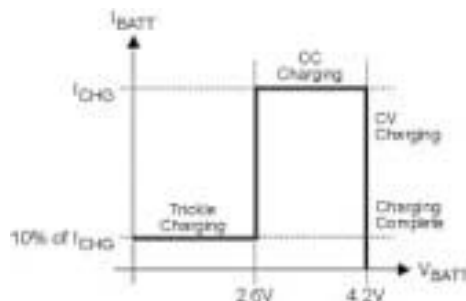

Figure 2—MP26121 Typical Charging Profile
Figure 2 shows the typical charging profile for the MP26121. For a fully depleted battery with a terminal voltage lower than 2.6V, the MP26121 will start with the trickle charge (preconditioning) at 10% of the full charge current based on the value of R_{CHG} . If the charger stays in trickle mode longer than 32768 cycles, $\overline{\text{CHG}}$ becomes high impedance, indicating a battery fault. After the battery voltage reaches 2.6V, the charger begins charging using the programmed charge current (I_{CHG}). This is referred to as Constant Current (CC) mode. Once the battery voltage reaches 4.2V, the charger will operate in the constant voltage (CV) mode until the battery is fully charged. The charge current drops during CV mode, and the battery full indication is set when the charge current is reduced to 10% of the programmed constant current value (I_{CHG}). The charge process is then terminated. Recharge will start after the battery voltage is reduced to 4.0V. After 262144 cycles of continuous charging, if the battery still has not reached 10% of the I_{CHG} condition, the on-chip timer will terminate the charger to prevent charging the dead battery excessively and the fault condition will be flagged by flashing the $\overline{\text{CHG}}$ LED.